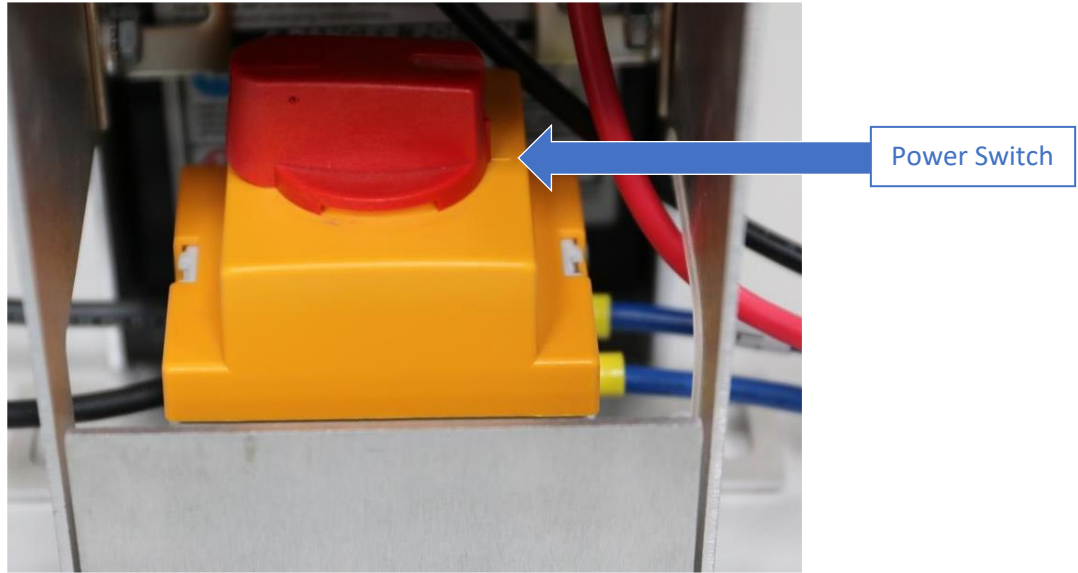
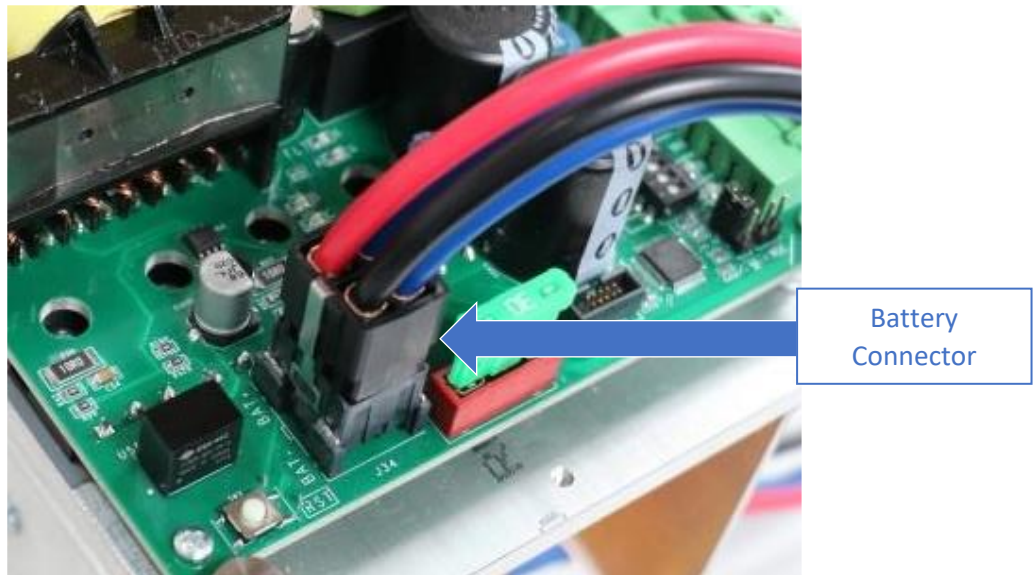

Figure 2: Power Switch
Figure 3: Battery Connector
The batteries within the BLD must be charged and the switch must be in the ON position as shown in Figure 2 below. The Battery Connector cable must be plugged in as shown in Figure 3. The batteries will continue charging while 120 and N are connected to 120VAC and BLD is not outputting.
- **Battery Connector** – Battery Connection (Black [BAT-], Red [BAT+]) and Switch Connections (Blue [SW1], Blue [SW2]). See Figure 3.